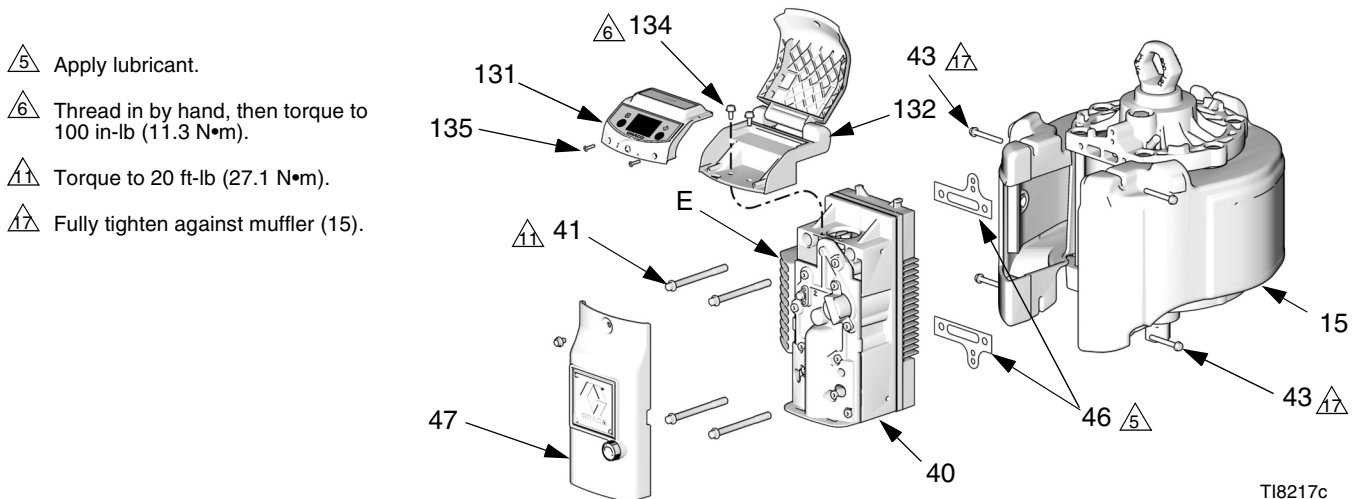

FIG. 9. Remove the Air Valve (Model Shown with DataTrak Module)
4. See FIG. 9. Remove the outer valve cover (47).
- a. **DataTrak Models:** Remove the two screws (135). Carefully remove the DataTrak module (131), see page 14. Disconnect the runaway solenoid and sensor cables from the module board. Remove the two screws (134) and carefully slide the housing (132) off the air valve.
7. See FIG. 9, page 20. Lubricate the gaskets (46) and ensure they align with the holes at the back of the air valve (40). Install the air valve. Install the screws (41) and torque to 20 ft-lb (27.1 N•m). Thread the screws (43) in by hand, then fully tighten them against the muffler (15).
- ⚠2 **Important:** Do not permanently distort spring (S). Spring must be completely tight against piston (119) to prevent interference.